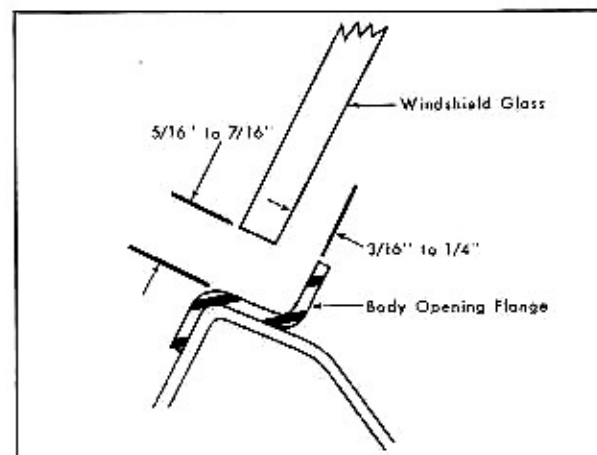

Fig. 3-16 Windshield Glass to Pinchweld Clearances
4. Figure 3-16 shows a typical section through the glass and body opening. The spacing between glass and body should be uniform and within the specified limits.